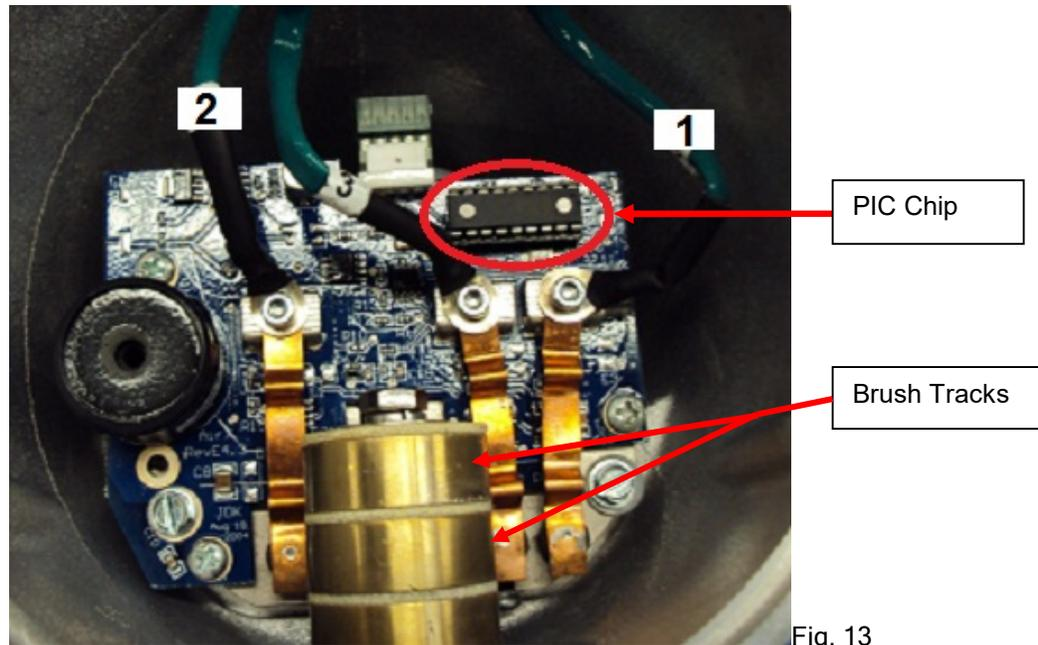

Fig. 13
40. Rotate the yaw shaft. Take a close look at each of the brushes to make sure they are properly contacting the appropriate slip ring. Make sure each spring is properly seated in the rectifier slot and that the brush wires are not being pinched. There will be fresh "brush tracks" on the slip rings. See Fig. 13. Also, make sure the slip rings are vertically aligned.
43. Orient the body as described in step 30. Using the three, small socket-head screws, connect the wires from the new alternator assembly in the following order from left to right on the circuit board: **#2 - Left Terminal, #3 - Center Terminal, #1 - Right Terminal**. Divert wires #3 & #1 around the PIC Chip. **Do Not** run the wires over the PIC Chip, this can cause malfunction. See Fig. 13 below for clarity. It is important that the three ring terminals are parallel and cannot contact one another once tightened. Torque spec for these bolts is 10 in-lbs.